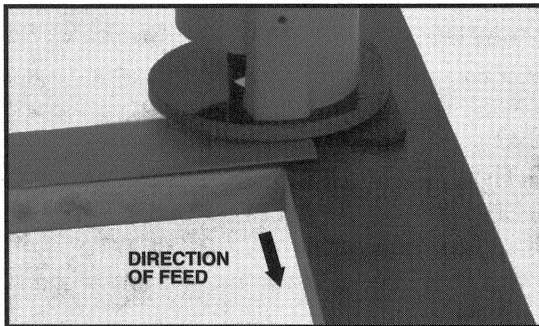

Fig. 4
5. Position the underscribe trimmer onto the face frame so that the lip (see Fig. 4), is against the edge of the stile.
**NOTE:** The trimmer should be to the right of the rail, so that the cutting action will move from right to left (see Fig. 4).